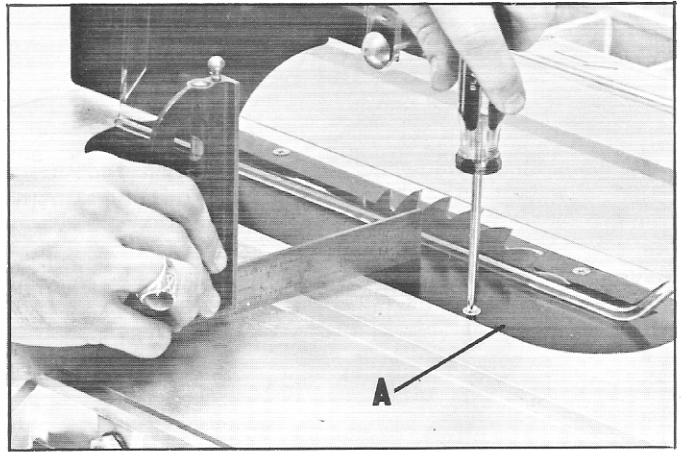

Fig. 23
The table insert (A) is placed in the opening in the saw table, as shown in Fig. 23, and should be level with the surface of the saw table. To adjust the table insert use a straight edge and screwdriver and turn the four adjusting screws in or out until the insert is flush with the table, as shown in Fig. 23.